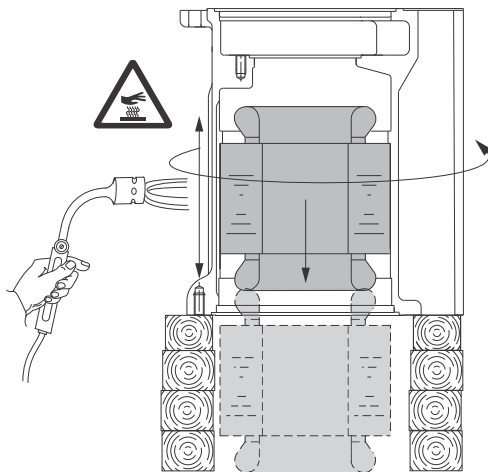

Fig. 6 Heating up the stator housing in order to remove the stator
3. Remove the lower bearing bracket (60) and the rotor (172).
4. Remove the cover for bearings (59) from the lower bearing bracket.
5. Remove the top cover (151).
9. Block up the stator housing in upside-down position as shown in fig. 6.